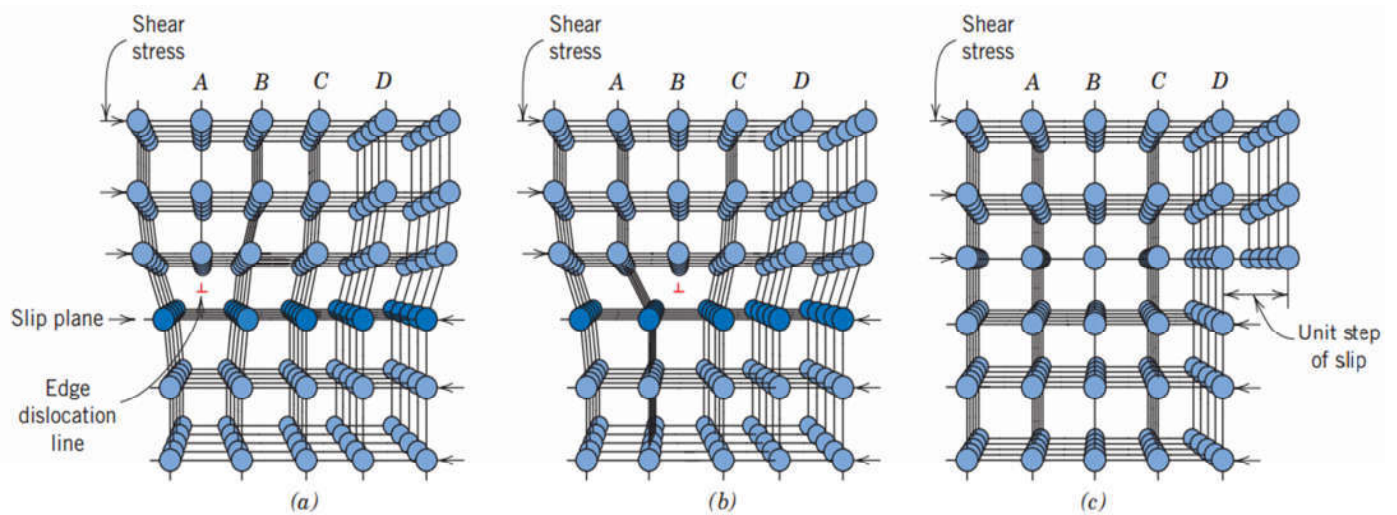

Figure 7 The motion of an edge dislocation as it moves in response to an applied shear stress
- Plastic deformation corresponds to the motion of large numbers of dislocations. An edge dislocation moves in response to a shear stress applied in a direction perpendicular to its line; the mechanics of dislocation motion are represented in **Figure 7**.